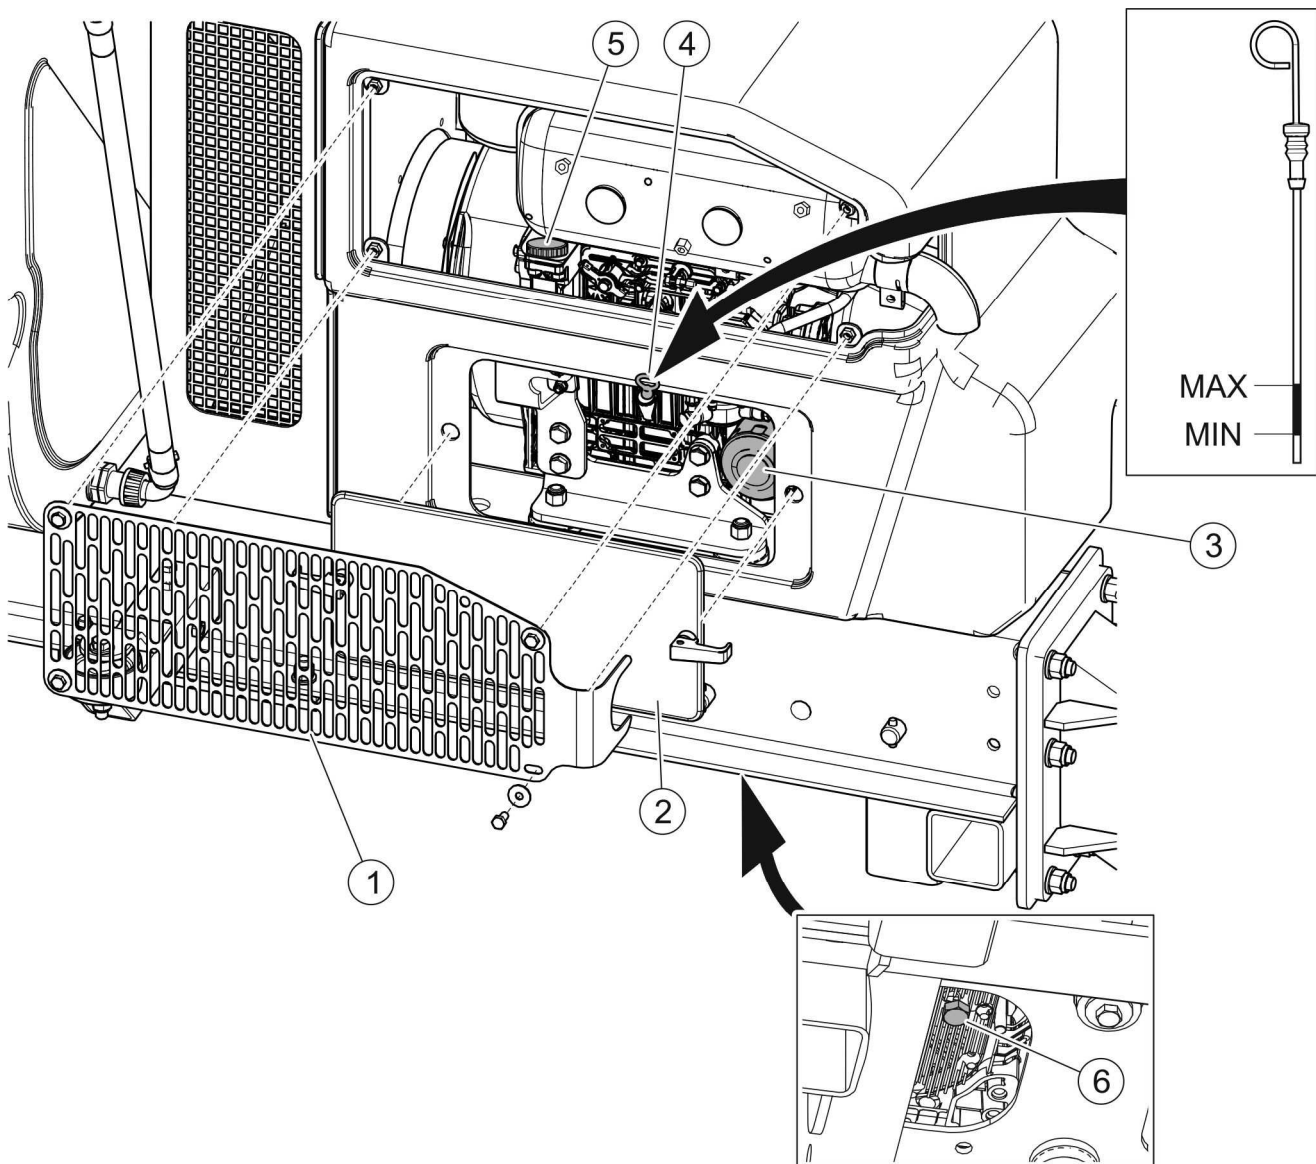

FIGURE 5.3 Change of engine oil and engine oil filter
- Remove muffler shield (1) and engine shield (2) (FIGURE 5.3).
- Unscrew filler plug (5), unscrew oil drain plug (6) and drain oil to previously prepared container.
- Remove contaminations from the oil filter (3) area on the engine block and unscrew contaminated filter.
- Wipe the contact surface for the filter gasket (3) on the engine block and make sure that the old gasket was completely removed.
- Install a new sealing ring and tighten oil drain plug (6).
- Fill the engine with recommended new oil through oil filler (5) to the recommended level shown on the dipstick (4) and tighten the filler plug.
- Install muffler shield (1) and engine shield (2).